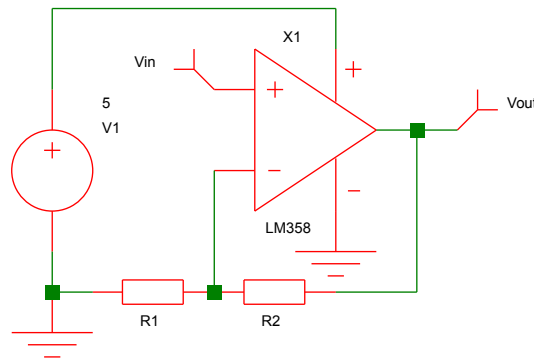

Figure 10: Op-amp as non-inverting amplifier.
**Task:** calculate  $V_{out}$  based on  $V_{in}$  in the non-inverting amplifier circuit shown in figure 10. Show that for  $R_2 = 0$  you obtain the voltage follower:  $V_{out} = V_{in}$ .